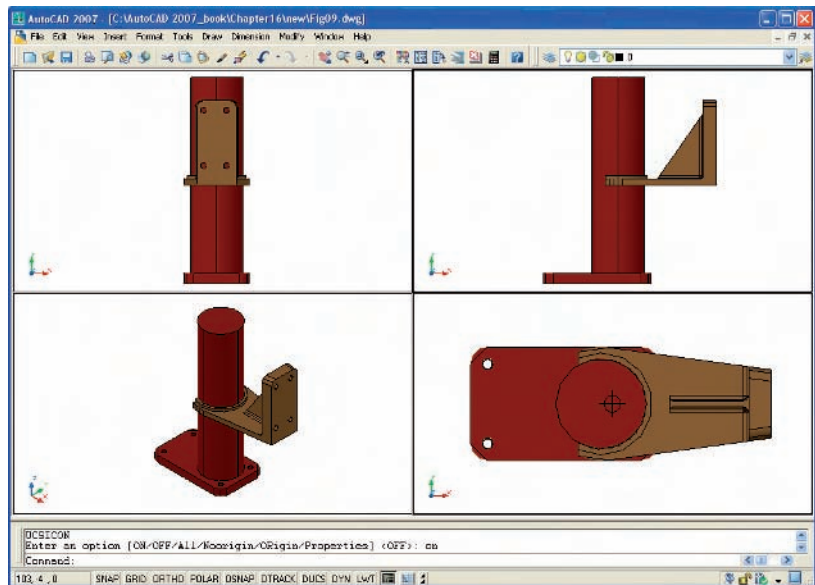

Fig. 16.26 The Realistic Style 3D model in a Four: Equal viewports setting
7. Fit the 3D model into a **Four: Equal** viewports setting. Note that the **Realistic Visual Style** mode still shows in each of the four viewports (Fig. 16.26).